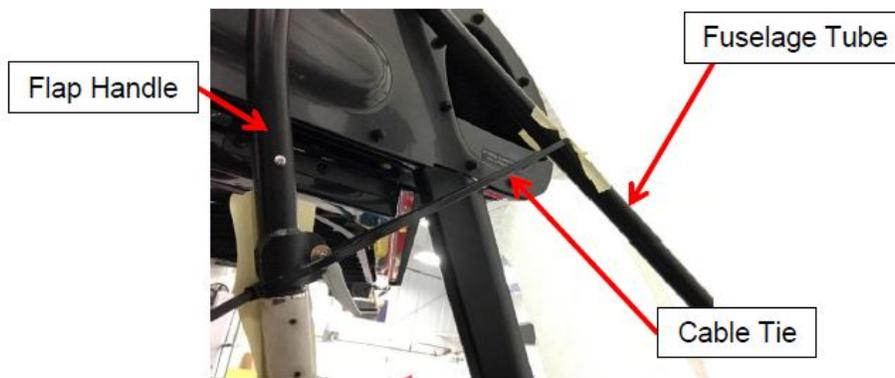

Figure 18 – Flap Handle Secured
(3) RIGGING
- (a) Flaps should be in the LANDING (fully extended) position to start. Using cable ties, secure the flap handle to the fuselage top tubes against the stop while measuring position (see Figure 18). To measure flap deflection, level should be as close as possible to a flap rib while still clear of any rivets.